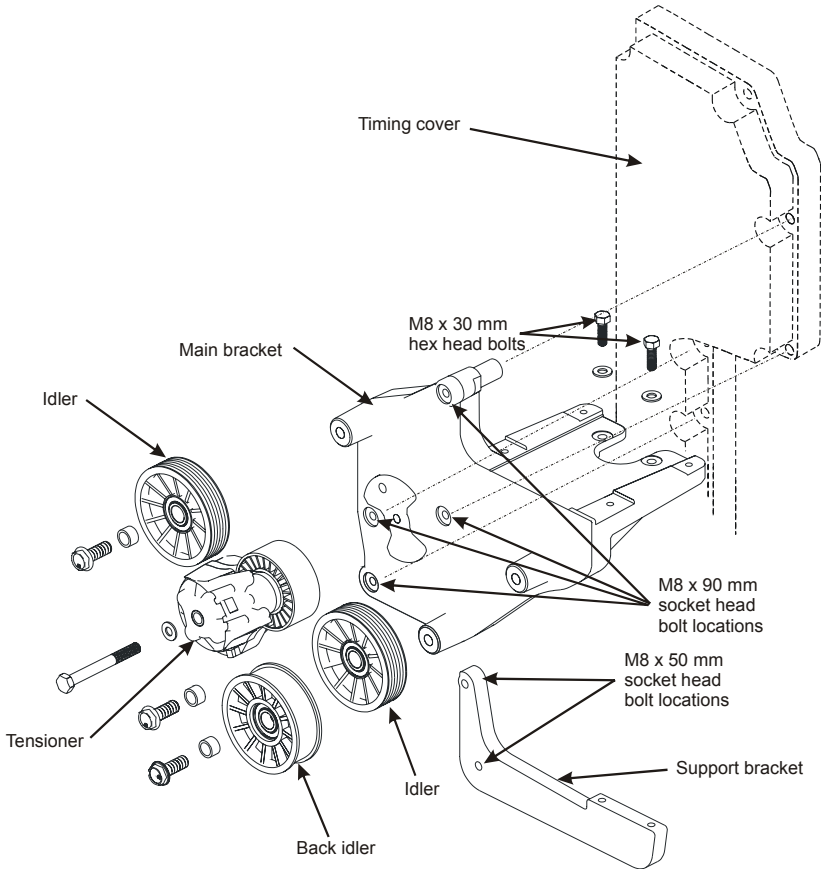

Figure 3.2
- Remove the idlers and the belt tensioner from the mounting bracket (Figure 3.2).